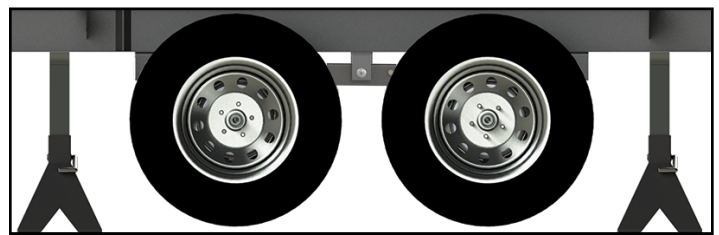

Fig.9
4. Using the properly-rated floor jacks, lift the trailer according to the manufacturer's recommendation until the wheels are no longer in contact with the ground (**Fig.9**).